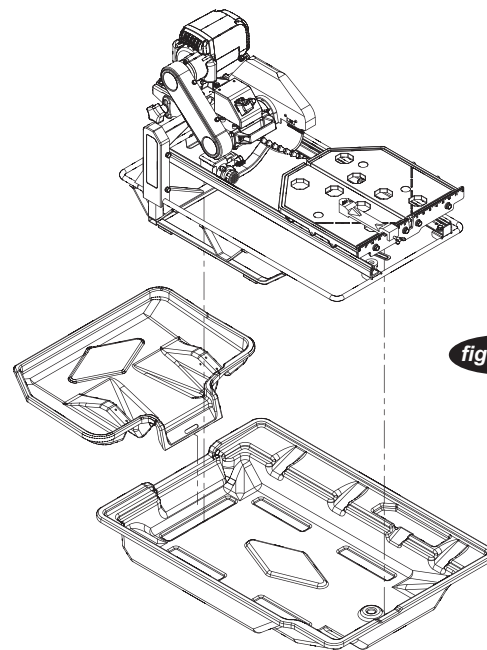

figure 6
6. Attach the rear drip tray. (see figure 6)